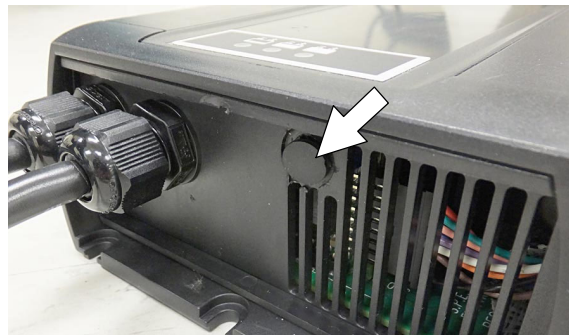

FIG. 85
5. Remove the black cap from bottom side of charger to access the profile dial (Figure 85)